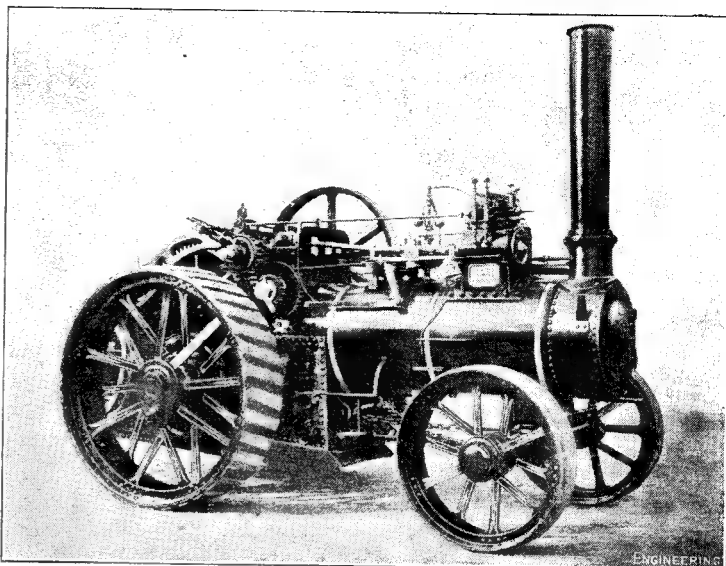

Fig. 39. F. Savage's "Sandringham" class general purpose traction engine
All types of steam engine were now being made in St. Nicholas Works, and the traction engine side of it was given great attention, the next design in 1884 being included in Fig. 39, which type was known as the "Sandringham" class,
■ little forward, is a short stub shaft on which is mounted a double pinion set of 15 and 35 teeth respectively, seen ready for placing in position in Fig. 39. The ordinary gears are slid along the crankshaft into neutral when the slow-speed pinion now engages with the larger pinion of the slow-motion gear of 35 teeth. The 15-tooth pinion of the set now
The workmanship and finish of these engines were of a high order, as can be seen from Fig. 39 and the main dimensions are contained in the schedule in Table VI.